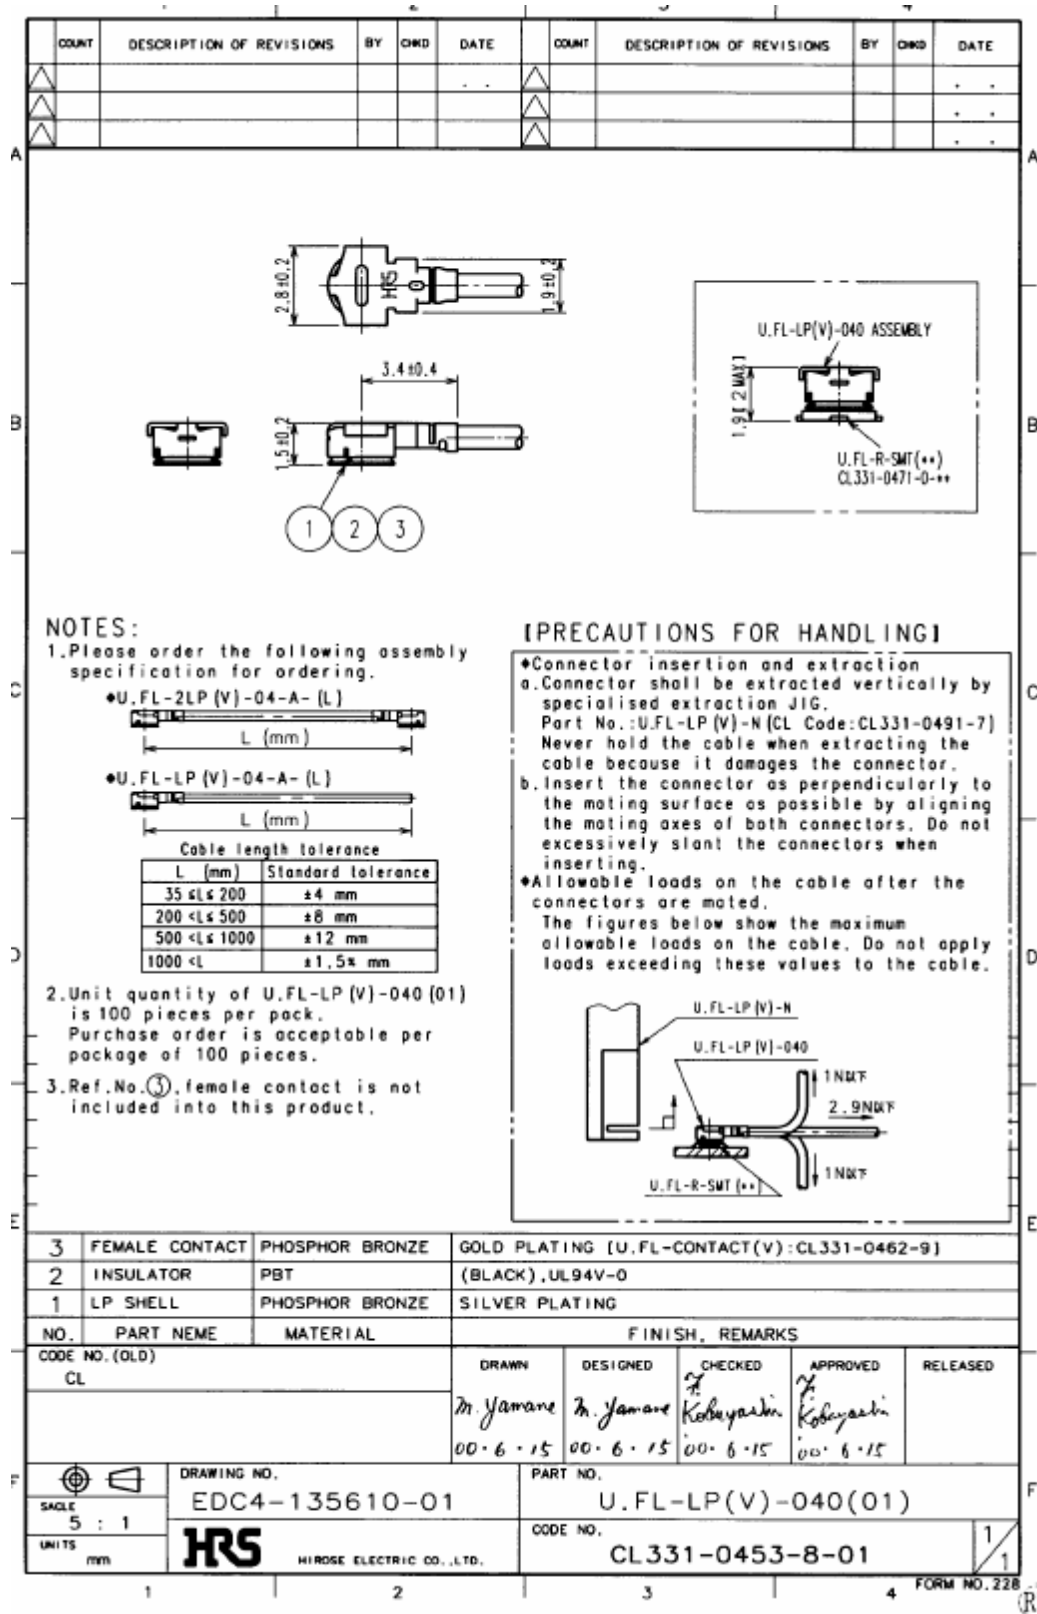

Figure 18: Specifications of U.FL-LP-(V)-040(01) plug
In addition to the connectors illustrated above, the U.FL-LP-(V)-040(01) version is offered as an extremely space saving solution. This plug is intended for use with extra fine cable (up to $\varnothing 0.81\text{mm}$) and minimizes the mating height to 2mm. See Figure 18 which shows the Hirose datasheet.